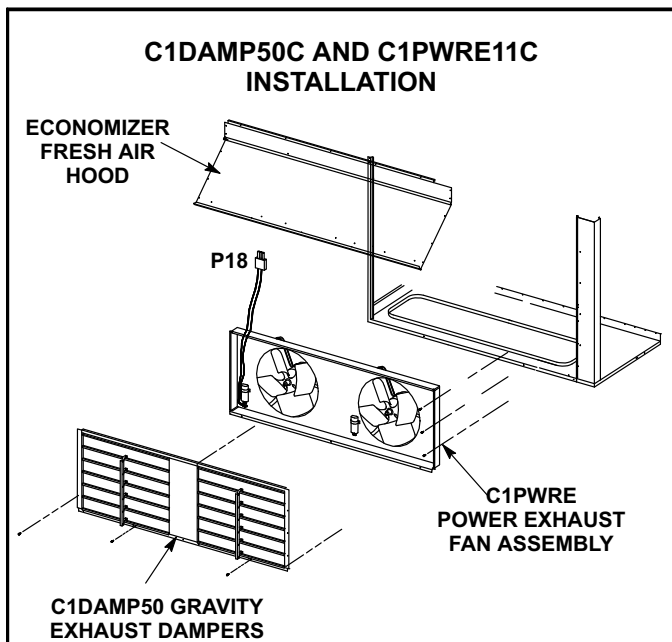

FIGURE 28
C1DAMP50C dampers (figure 28) are used in downflow and LAGED(H)18/24 are used in horizontal air discharge applications. LAGED(H) barometric relief / gravity exhaust dampers are installed in the return air plenum. The dampers must be used any time an economizer or power exhaust fan is applied to KCB series units.
C1PWRE11C power exhaust fans are used in downflow applications only. The fans require optional downflow barometric relief / gravity exhaust dampers and K1ECON economizers. Power exhaust fans provide exhaust air pressure relief and also run when return air dampers are closed and supply air blowers are operating. Figure 28 shows the location of the C1PWRE11C. See installation instructions for more detail.